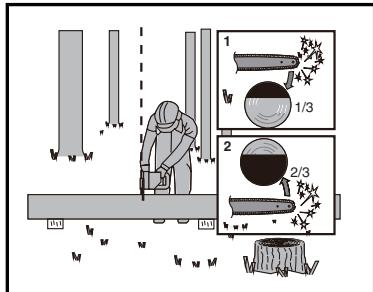

Figure 5
When the log is supported on both ends, as illustrated in Figure 5, cut  $\frac{1}{3}$  the diameter from the top (overbuck) (1). Then make the